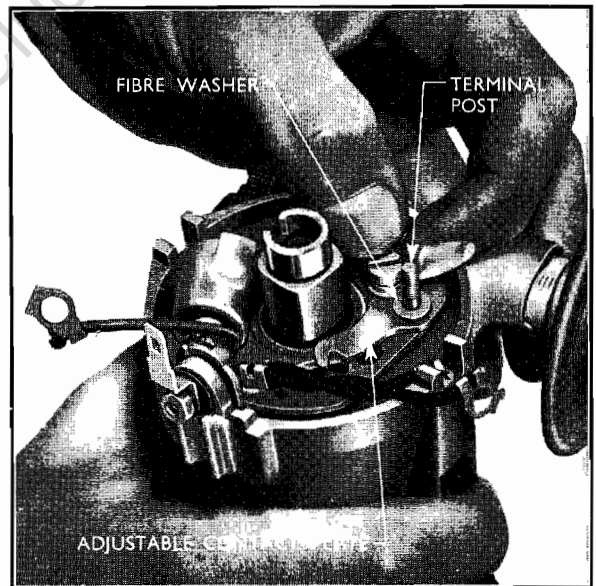

Fig. 2
1. Secure the adjustable contact to the breaker plate (see Fig. 2) with one flat washer, lockwasher